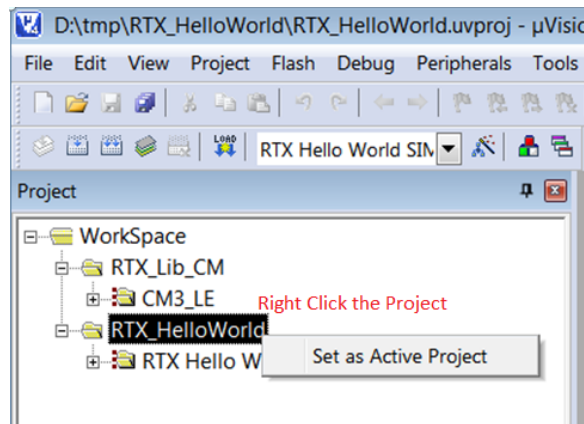

Figure 1.25: Keil IDE: Set an Active Project
1. Activate the RTX>HelloWorld project by highlighting the project name and right click. Then click the Set as Active Project (see Figure 1.25).